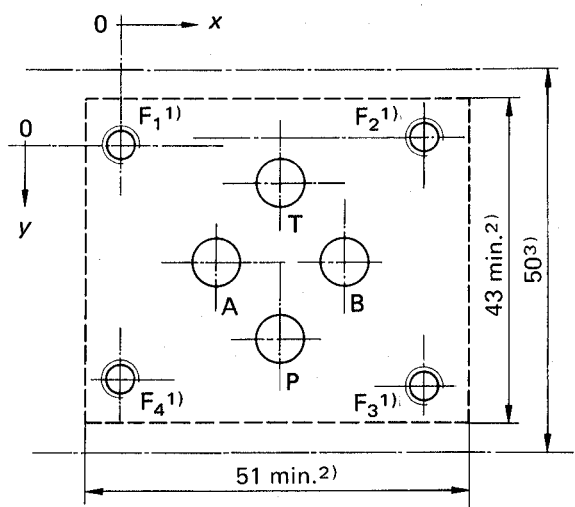

Figure 2 — Mounting surface for four-port hydraulic directional control valves with 6,3 mm maximum port diameter
**6.2** Mounting surface with 6,3 mm maximum port diameter (ISO 4401-AB-03-4-A)\*, see figure 2, table 2.